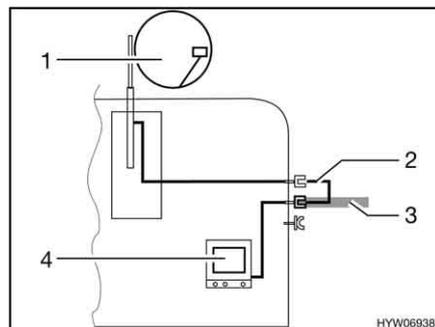

Fig. 155 TV inside the vehicle
- TV inside the vehicle (Fig. 155,4): Connection to roof antenna (Fig. 155,1) with connection cable (Fig. 155,2)
- TV inside the vehicle (Fig. 155,4): Connection to external antenna (Fig. 155,3)